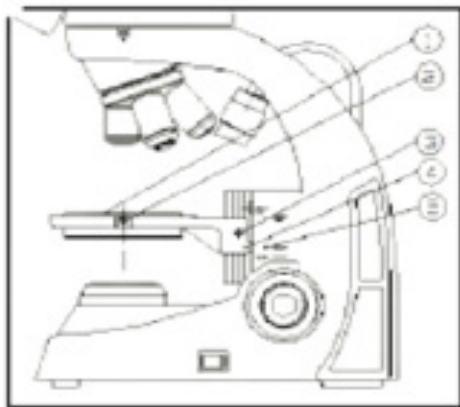

Fig. 23
Put the culture dish (1) into the holder, use a hexagonal wrench lock the screw (2) . Adjust coarse focusing wheel to lift the holder to the top position, loose the screw (3) to move the holder, and then lock the screw (3) when marks (4) and (5) are horizontally aligned. (See Fig.23) (Only available under 2X